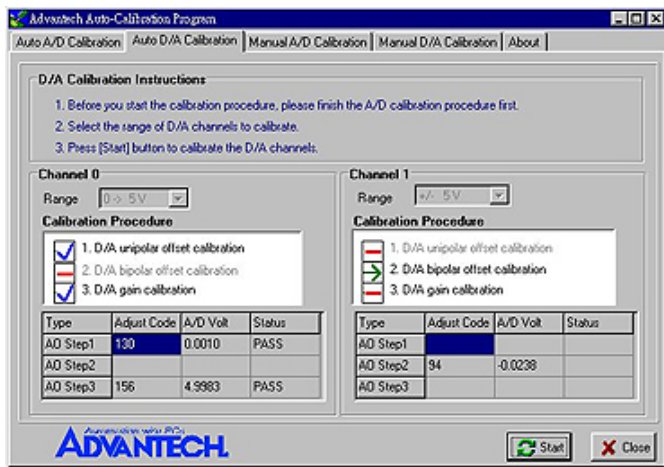

Figure 6-11: Calibrating D/A Channel 1
Step 11: D/A channel 1 calibration is enabled (Fig. 6-11)